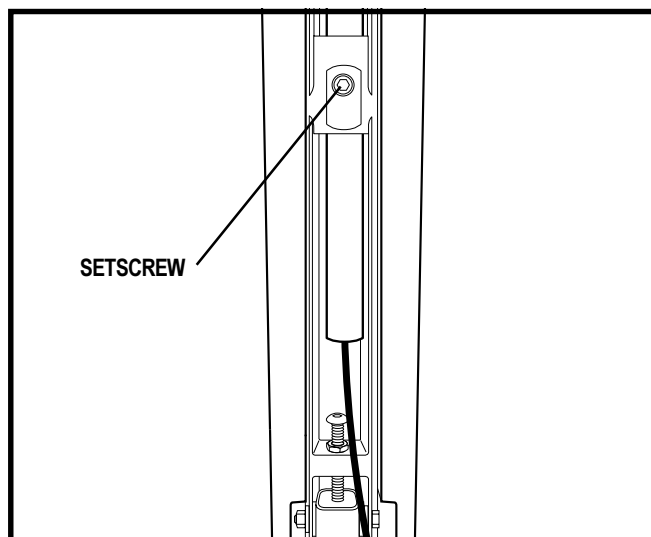

Figure 15. Underside of Armrest
4. Use a hex key to loosen the setscrew. See figure 15.